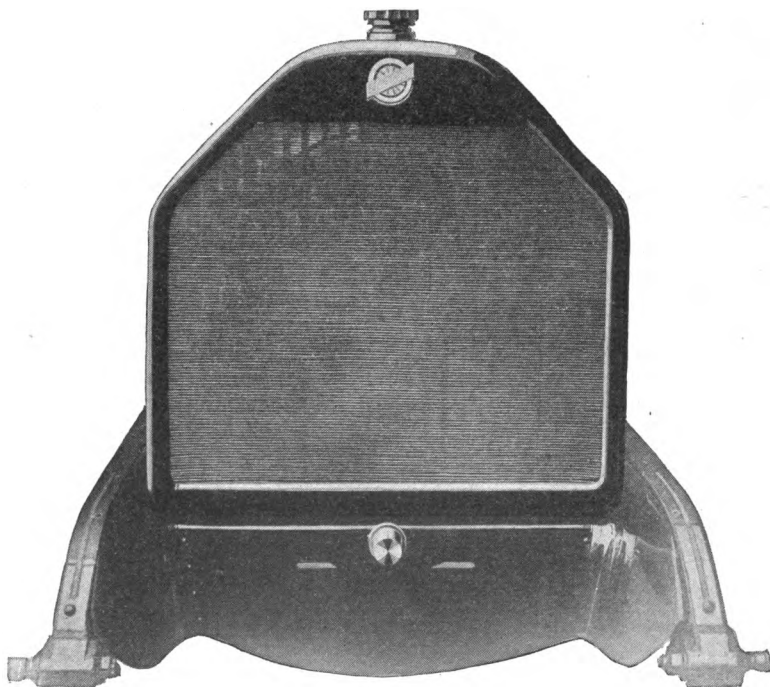
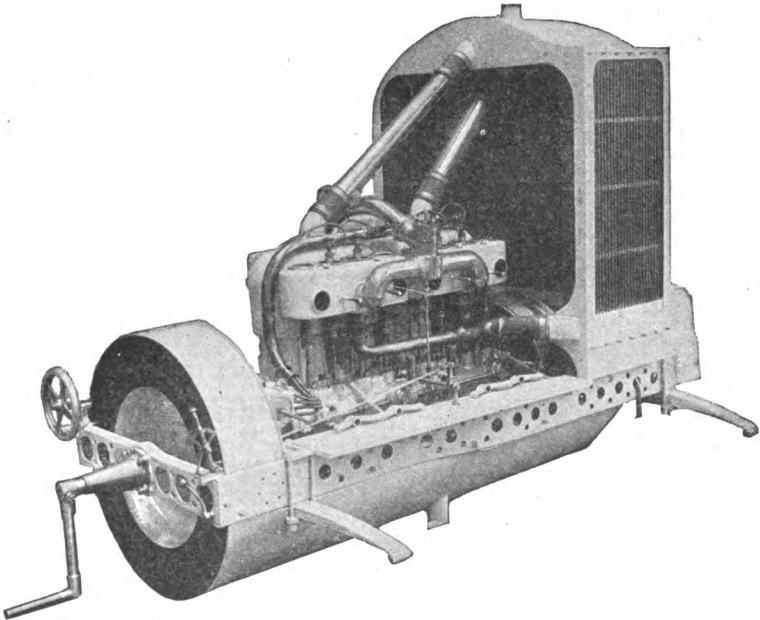

Fig. 202. Horizontal Plate Type of Tubular Radiator Used on Studebaker Cars
Fig. 204. Renault Form of Radiator Situated Back of Engine
A typical pleasure-car radiator of the tubular type is shown in Fig. 202. As will be noted, the flanges have a continuous horizontal appearance, but the vertical tubes which carry the water can be seen in the background. These actually carry the water; the horizontal flanges simply serve as a heat-radiating surface. This type is rapidly increasing in popularity for pleasure cars of medium and low price, at the expense of all others.
*Types of Tubes.* In the tubular form, there are two well-known types: the round vertical tube with spiral fin, or flange, welded or sweated on; and the so-called tube-and-plate construction, shown in Fig. 202, in which a set of horizontal plates is pierced with a number
*Modifications of Cellular and Tubular Forms.* In addition to the types shown in Figs. 202 and 203, there are a number of forms which partake somewhat of their characteristics but which show a marked individuality. The Renault form, which is placed at the dash instead of at the front, is shown in Fig. 204. It has a
The pioneer, and still the most prominent exponent, of thermosiphon cooling is the Renault Company, of France. A typical Renault motor-and-radiator combination with thermosiphon circulation is illustrated in Fig. 204.
In some cases, instead of a separate fan, fan blades are placed on the flywheel, and so made to induce a draft through the bonnet that covers the engine, thus avoiding the necessity for the addition to the moving parts involved in the usual fan system. Such a flywheel fan is used in the engine illustrated in Fig. 204.